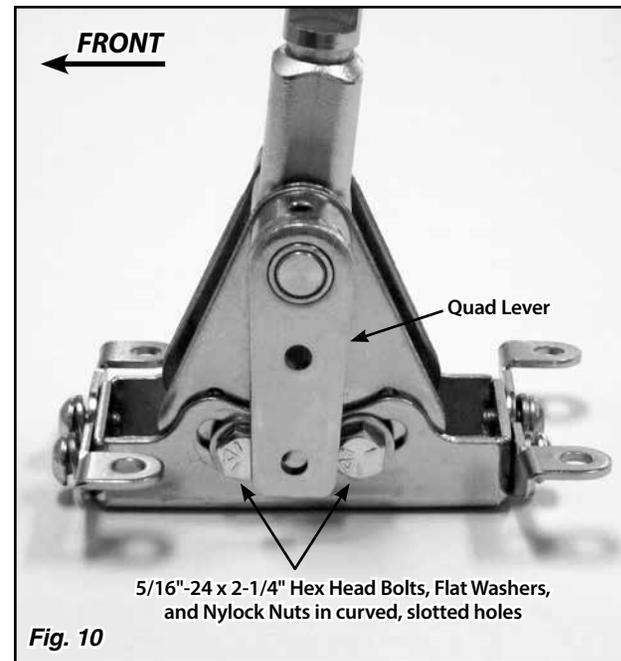

Fig. 10
**Step 12:** Make sure the two 5/16"-24 x 2-1/4" hex head bolts and nylock nuts that are in the curved, slotted holes in the floor mount mounting bracket are tight. Place the Shifter in the desired location on the vehicle's floor. Make sure the shifter lever will not interfere with the dash when in Park, or with the seat when in low gear (you may need to temporarily install your shifter lever to verify). The shifter assembly may be tilted forward or backward if needed by loosening the nylock nuts on the two 5/16"-24 x 2-1/4" hex head bolts that are in the curved, slotted holes in the floor mount mounting bracket. Retighten the nylock nuts once you have the shifter assembly at the angle you want. **Fig. 10**